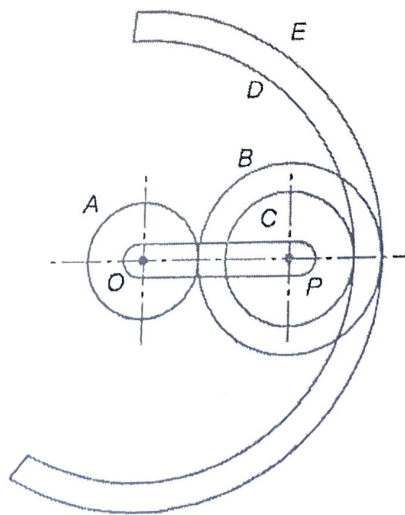

Fig.4
21. Fig. 4 shows diagrammatically a compound epicyclic gear train. Wheels A , D and E are free to rotate independently on spindle C , while B and C are compound and rotate together on spindle P , on the end of arm OP . All the teeth on different wheels have the same module. A has 12 teeth, B has 30 teeth and C has 14 teeth cut externally. Find the number of teeth on wheels D and E which are cut internally. If the wheel A is driven clockwise at 1 rps while D is driven clockwise at 300 r.p.m., determine the magnitude and direction of the angular velocities of arm OP and wheel E .